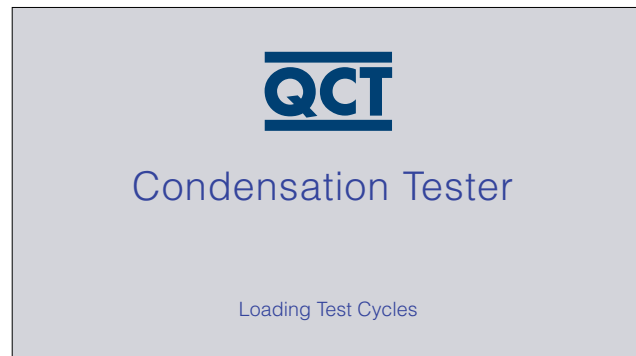

Figure 8.1b: QCT touchscreen monitor power up display.
- On QCT power up the display in Figure 8.1b is shown on the touchscreen monitor.